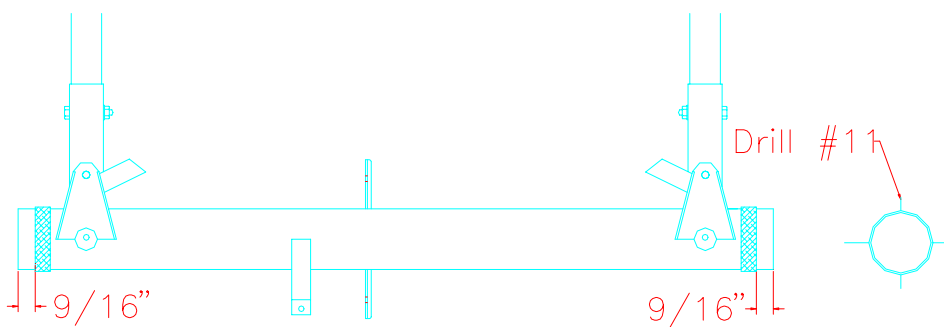

Figure 15.4.4
4) Slide the doubler rings (CC-54) onto the Control Torque Tube (CC-35). One on each end. Drill four #11 holes through each doubler ring. Figure 15.4.4.